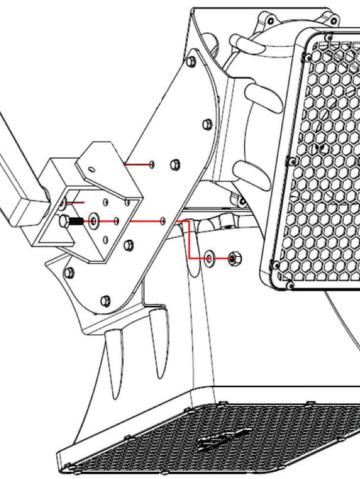

Figure 6: Attaching Dual Speaker System to a Wall Mounting Bracket
- 2) Attach the wall mount bracket to the middle holes of the dual mount plate with three $\frac{1}{4}$ -20 bolts (Figure 6).